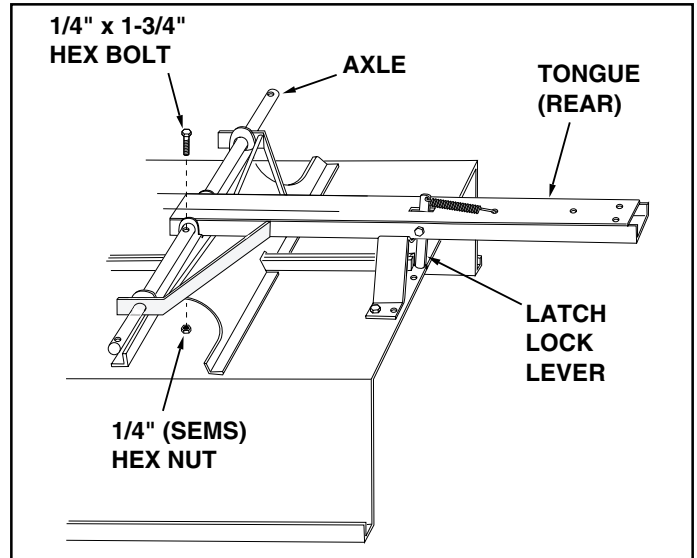

FIGURE 6
13. Place the rear tongue onto the wheel support and the latch stand bracket. Assemble the axle through the wheel support and the tongue. Fasten the axle to the wheel support using two 1/4" x 1-3/4" Hex Bolts and 1/4" (SEMS) Hex Nuts. See Figure 6.